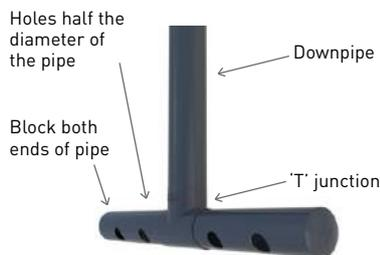

Figure 20
*Building Code E2: external Moisture / 8.0 Roof claddings / 8.1.6 Spoutings. Downpipes discharging to a lower roof shall be fitted with a spreader as detailed in Figure 20 below, with the discharge limited to a section of roofing with no side laps. Spreader shall not be used on masonry tile roofs unless a roof underlay is installed. A maximum catchment area of 25m2 shall be permitted to discharge via a spreader onto a lower roof area.*